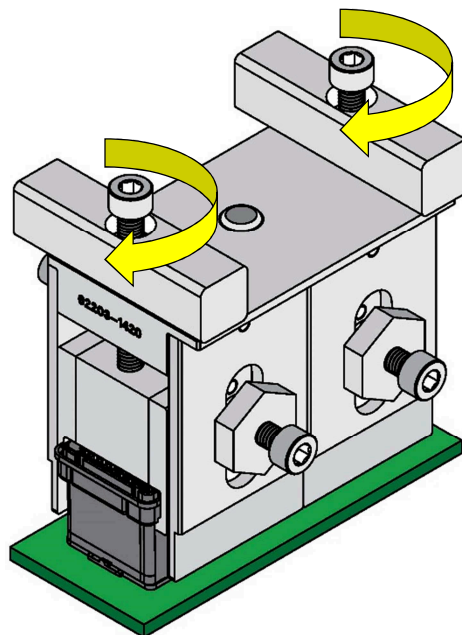

Figure 6
6. To remove the connector from the PCB, turn the T-Handles clockwise to raise the Lifting Jaws. See Figure 6.